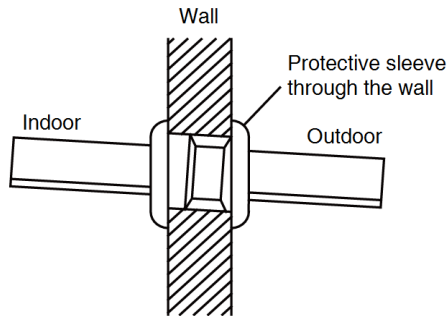
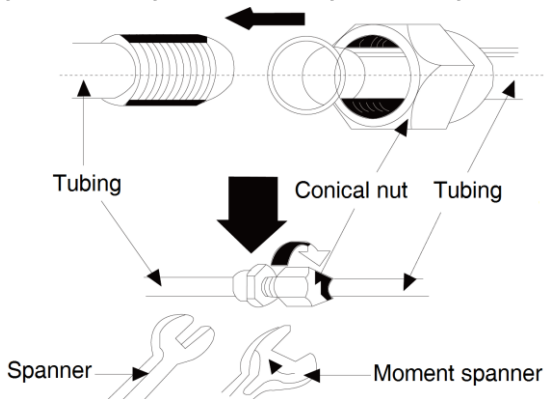

Figure 7-1 Refrigerant connecting pipe through the wall
Figure 7-2 Fastening the connecting pipe
- (1) If the water tank and the main unit need to be connected by punching through a wall, a hole of $\Phi 55$ mm must be drilled in the wall and the hole should be inclined toward the exterior wall, as shown in Figure 7-1. Protective sleeves need to be put on both sides of the hole.
- (2) Bind up the connecting pipes, power cable, water temperature sensing package, and communication lines (if necessary) of the wired controller with thermal insulation bands, and then lead them through the hole.
- (3) Remove the refrigerant pipe joint from the water tank and the sealing nuts from the small and large valves of the outdoor unit, and add refrigerant oil on the joint and valve cones.
- (4) Remove the sealing caps of the connecting pipe. Align the center of the bell mouth with the pipe joint and valve cone, and screw up the conical nut with your hand and then with a wrench, as shown in Figure 7-2.